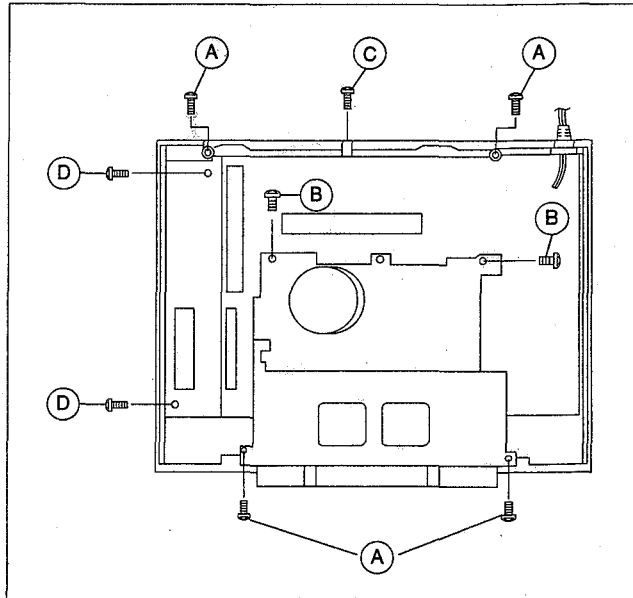

Fig. 1-5-1
- (1) Remove the Top cover, Front panel assy and CN1 of the DISPLAY board assy.
- (2) Take out 4 screws (A), 2 screws (B), 1 screw (C) and 2 screws (D) as shown in Fig.1-5-1.